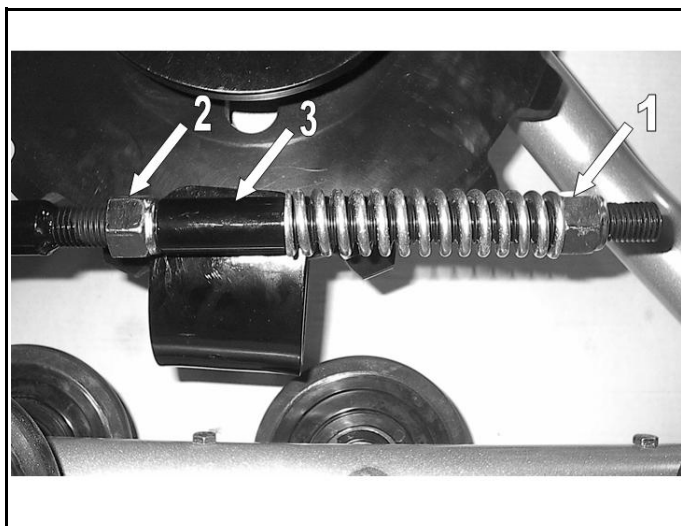

Figure 3
- Set the nut (1) compressing the spring of the stabilizing rod by doing one complete turn (see Figure 3).
- Turn the nut (2) until it comes in contact with the pivot guide (3).